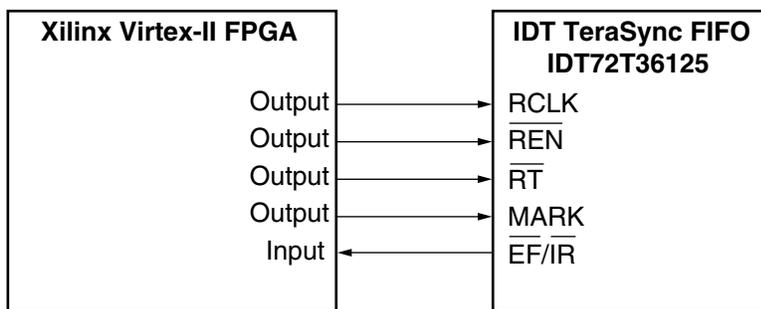

Figure 10: Signals Relevant for MARK and Retransmit
The write pointer cannot be incremented past the MARK point. There must be at least 32 bytes between the Write pointer and MARK location when retransmit is requested. **Figure 10** is a block diagram for implementing this feature. The a sample Verilog code (9) for MARK and retransmit is included in the reference design file on the IDT web site.